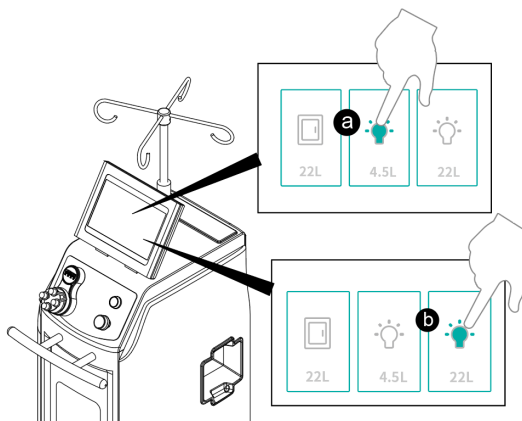

Figure 20 To Use Chamber lights
a. Tap the Upper/Lower Chamber light BUTTON to turn on the Chamber lights to illuminating the upper/Lower chamber (Figure 20).